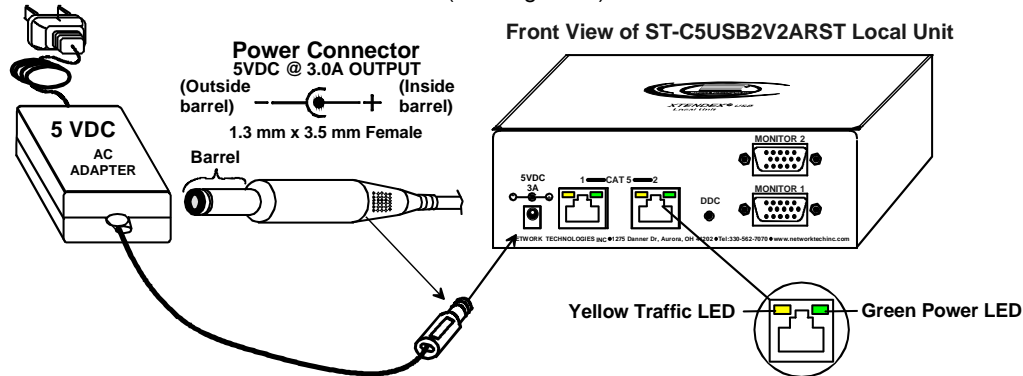

Figure 6- Connect the AC adapter(s)
2. Connect each AC adapter power connector to the 5VDC ports on the Remote and Local Units. (Model ST-C5USBVT only has a power supply at the Remote Unit. The Local Unit is powered by the CPU.) Plug each AC adapter into a power outlet. The green LED on the RJ45 connector of both the Remote and Local Units should illuminate, indicating that a proper connection has been made to them. (See Figure 6.)
Note: The yellow LED on RJ45 connector “CAT5 #1” will illuminate and “CAT5 #2” will blink anytime data traffic is passing between the Local and Remote Units, indicating proper CAT5 cable connection and communication. (See Figure 6)